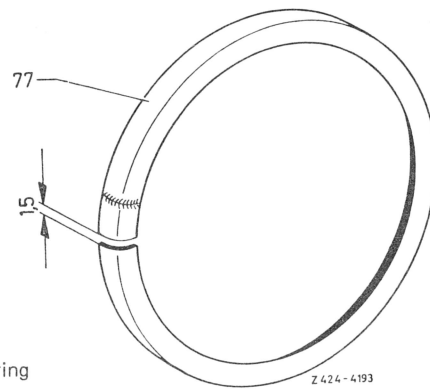

Fig. 13
f) For this purpose, cut machined ring open and place on light-alloy disc wheel. By welding a pertinent piece of the second removed rim flange enlarge ring in such a manner that in inserted condition a gap of approx. 1.5 mm will be available (Fig. 13). By pertinent bending of its contours match guard ring to rim flange in such a manner that it will abut under tension. Carefully round off edges of ring.